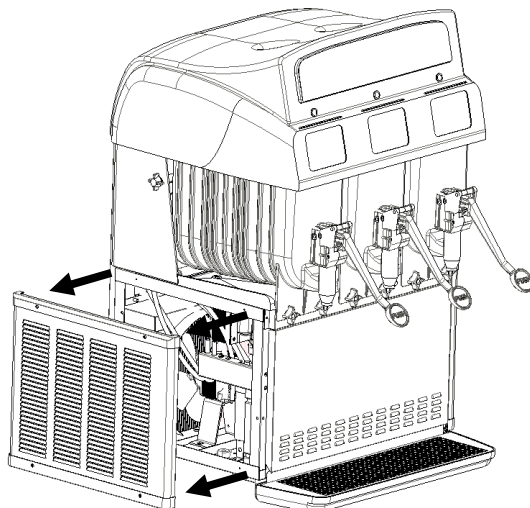

Fig. 4
After removing the left side panel as illustrated in fig.3, proceed by connecting the unit pipes L, C, R, W and CO2 indicated in fig.4 to the existing post-mix system using quick couplings. Use the inlet holes (fig.4) to insert the existing post-mix system pipes inside the unit frame.
- Loosen the valve flanges screws as indicated in the fig.4 without disconnecting them from the inferior flange;